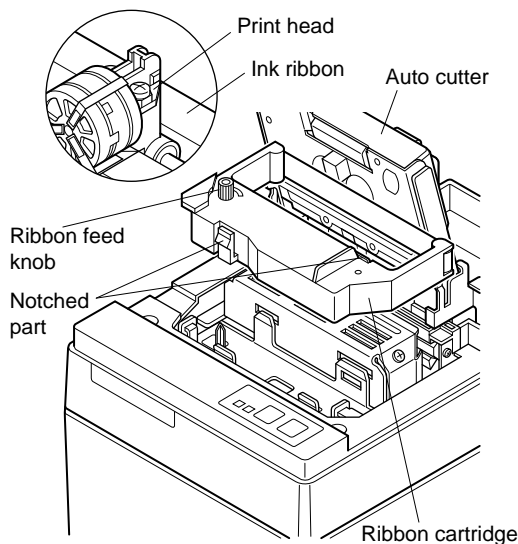

Fig. 4-10 Loading the ribbon cartridge
- 4 Place the ribbon cartridge in the direction shown in Fig. 4-10 and press it down to load it. If loading of the ribbon cartridge is not satisfactory, press down the cartridge while rotating the ribbon feed knob in the direction of the arrow.